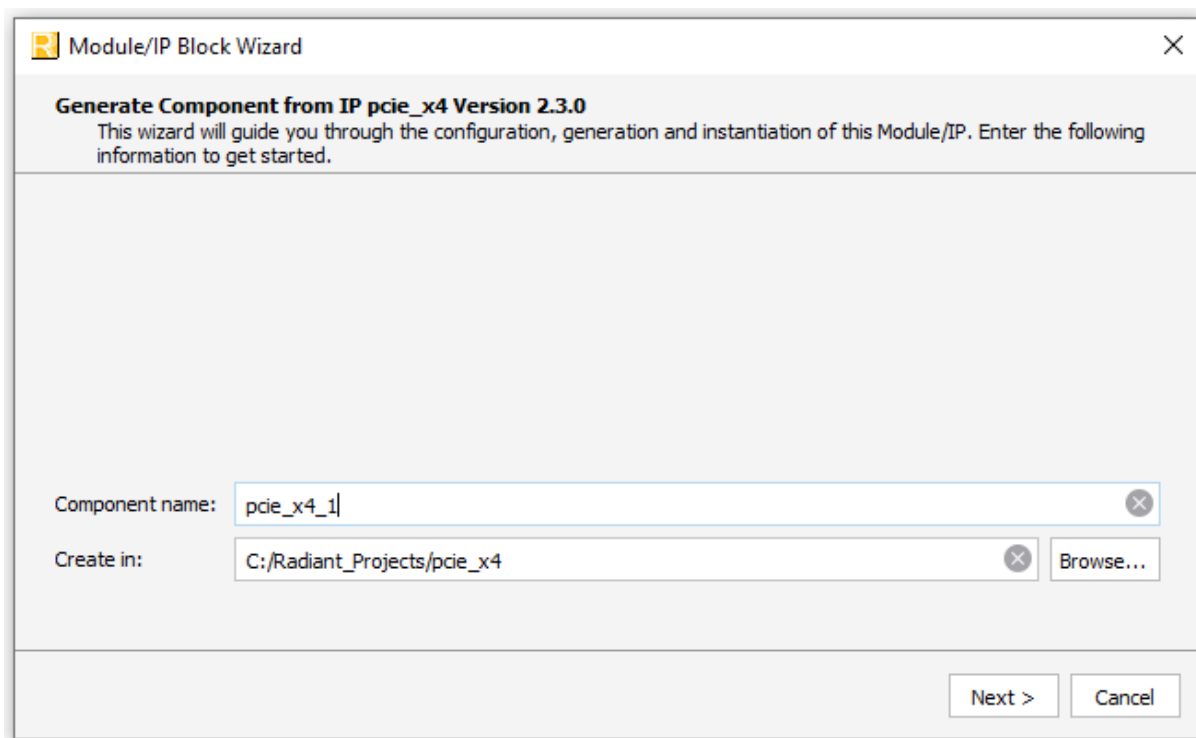

Figure 7.1. Module/IP Block Wizard
2. In the **IP Catalog** tab, double-click **PCIe_X4** under **IP, Connectivity** category. The **Module/IP Block Wizard** opens as shown in Figure 7.1. Enter values in the **Component name** and the **Create in** fields and click **Next**.
- Click **Finish**. All the generated files are placed under the directory paths in the **Create in** and the **Component name** fields shown in Figure 7.1.